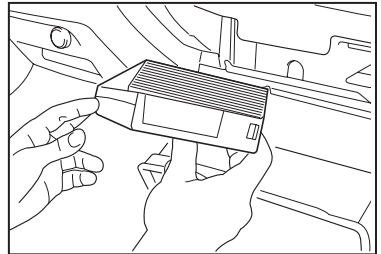

Fig. 3
6. Install the filters into the filter holders. (See Fig. 3)